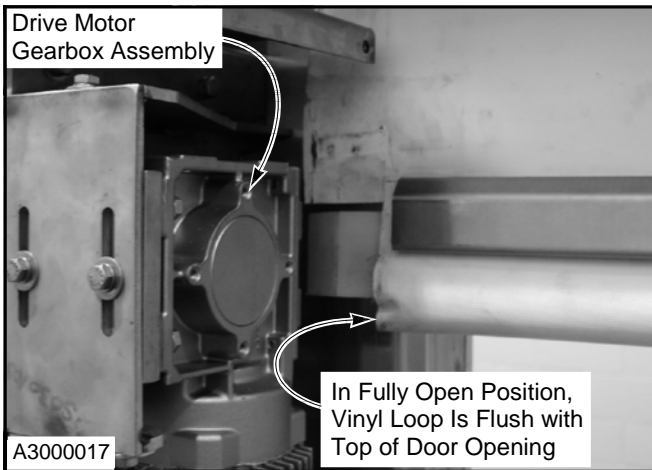

Figure 32
2. Jog the door until the bottom bar is in the fully open position. (See Figure 32.)